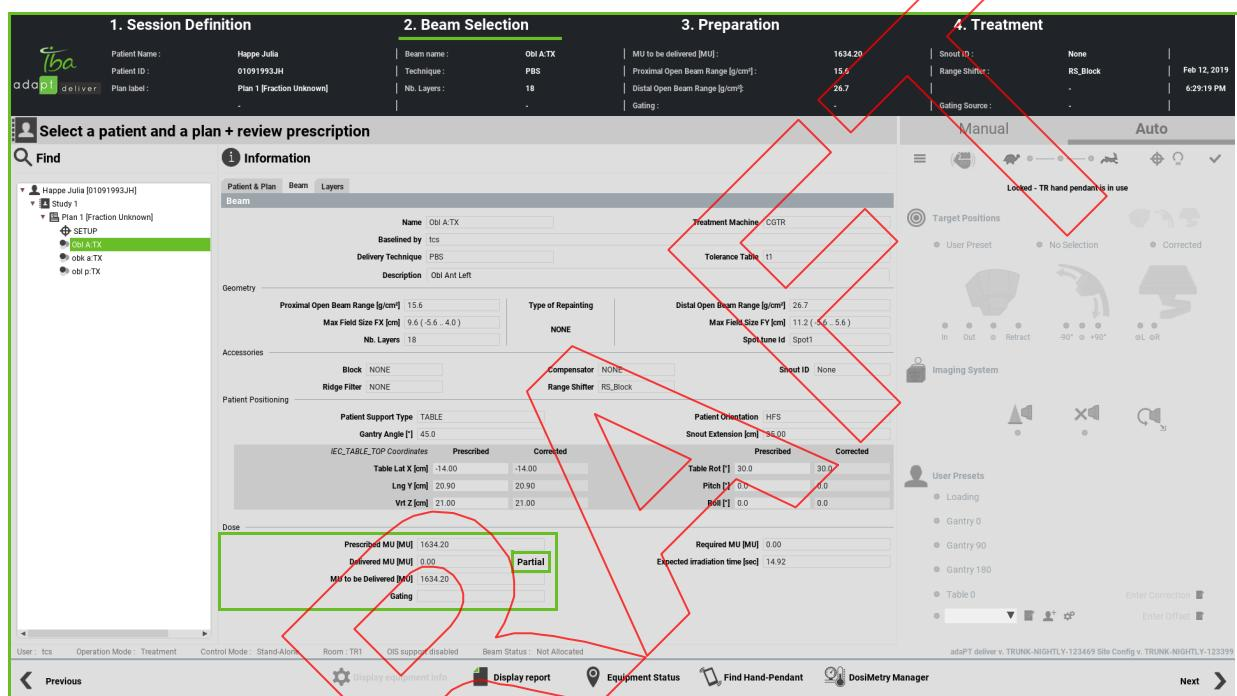

Figure 39-21. Resuming irradiation after partial treatment in Standalone mode
3. Search the adaPTdeliver database manually for data about partial treatments. To do so, in the **Dose panel**, click on **Partial** (Figure 39-21).